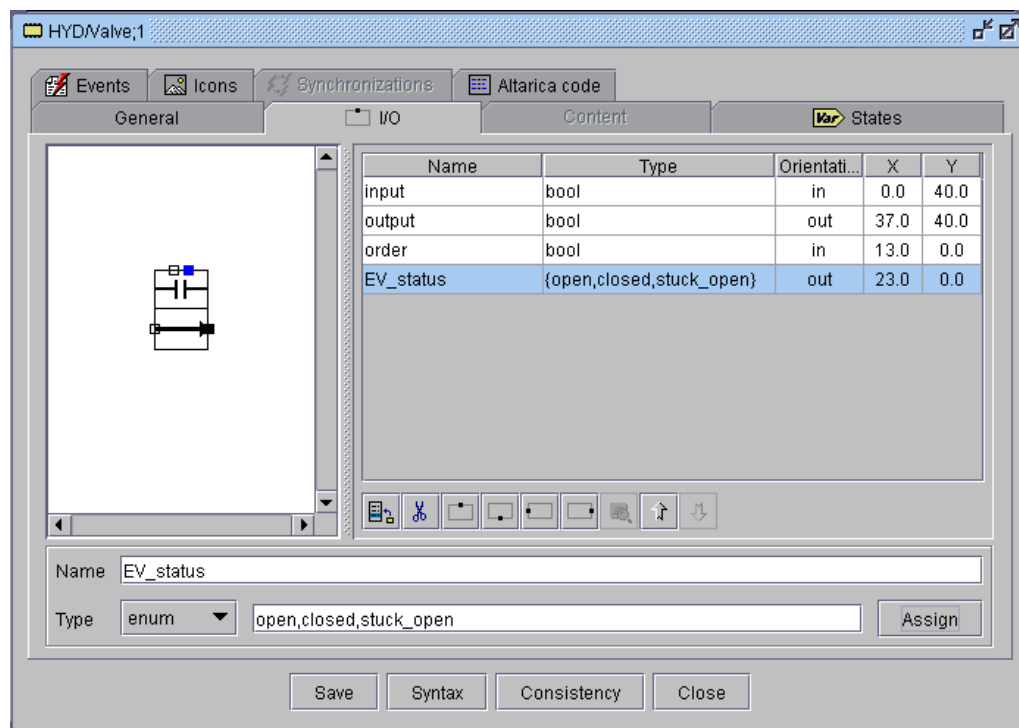

Figure 49 : I/O tab – Enumerate variable
- * **enum:** **enumerate** variable (Figure 49); values **must** be separated by commas without spaces, e.g. : null,low,high,